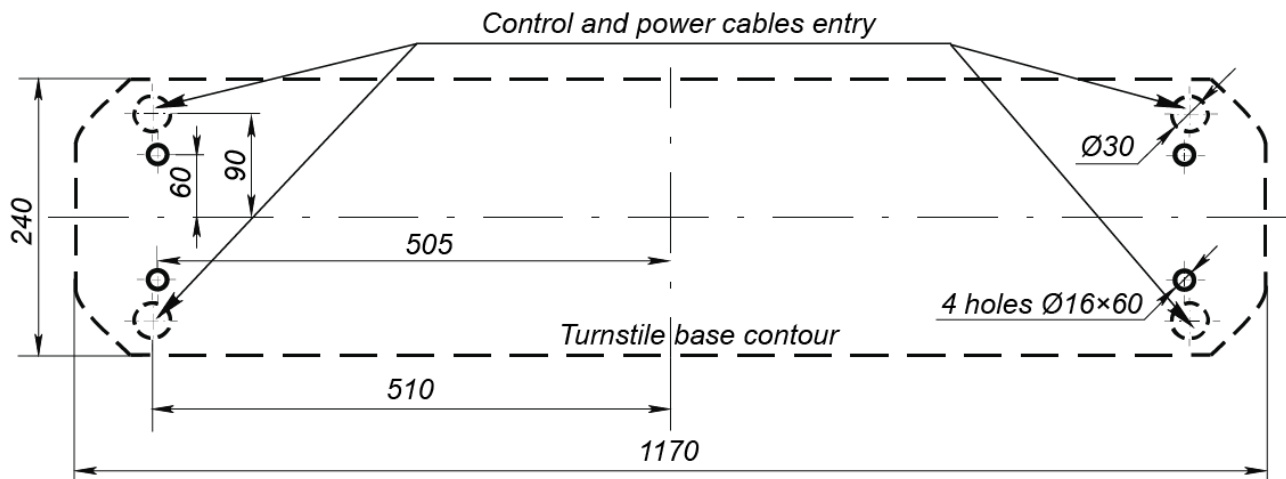

Figure 11. Hole pattern for mounting of the housing
4. Mark and prepare mounting holes for anchor bolt sleeves on the installation surface according to Figure 11.